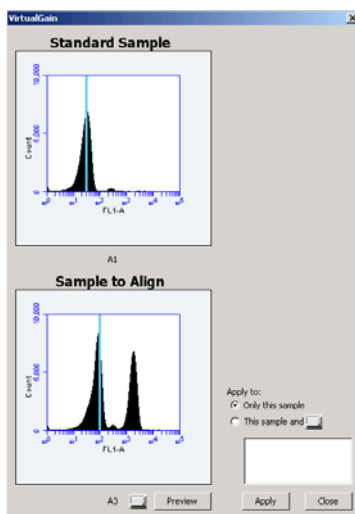

Figure 6-6 Step 11, Move the Peak Definition Marker.
11. Move the Peak Definition Marker in the Sample to Align plot to the center of the peak that will be lined up to the Standard (Figure 6-6).